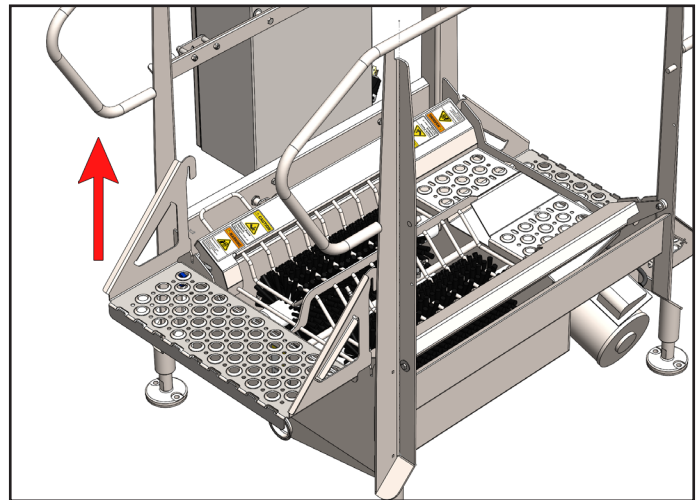

Fig. 10.1: Step removal
3. Lift up to remove from tub [Figure 10.1].